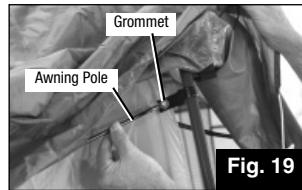

Fig. 19
3. Insert tapered metal tip on Awning Pole into grommet located on web strap clipped to center Leg Pole. (Fig. 19)